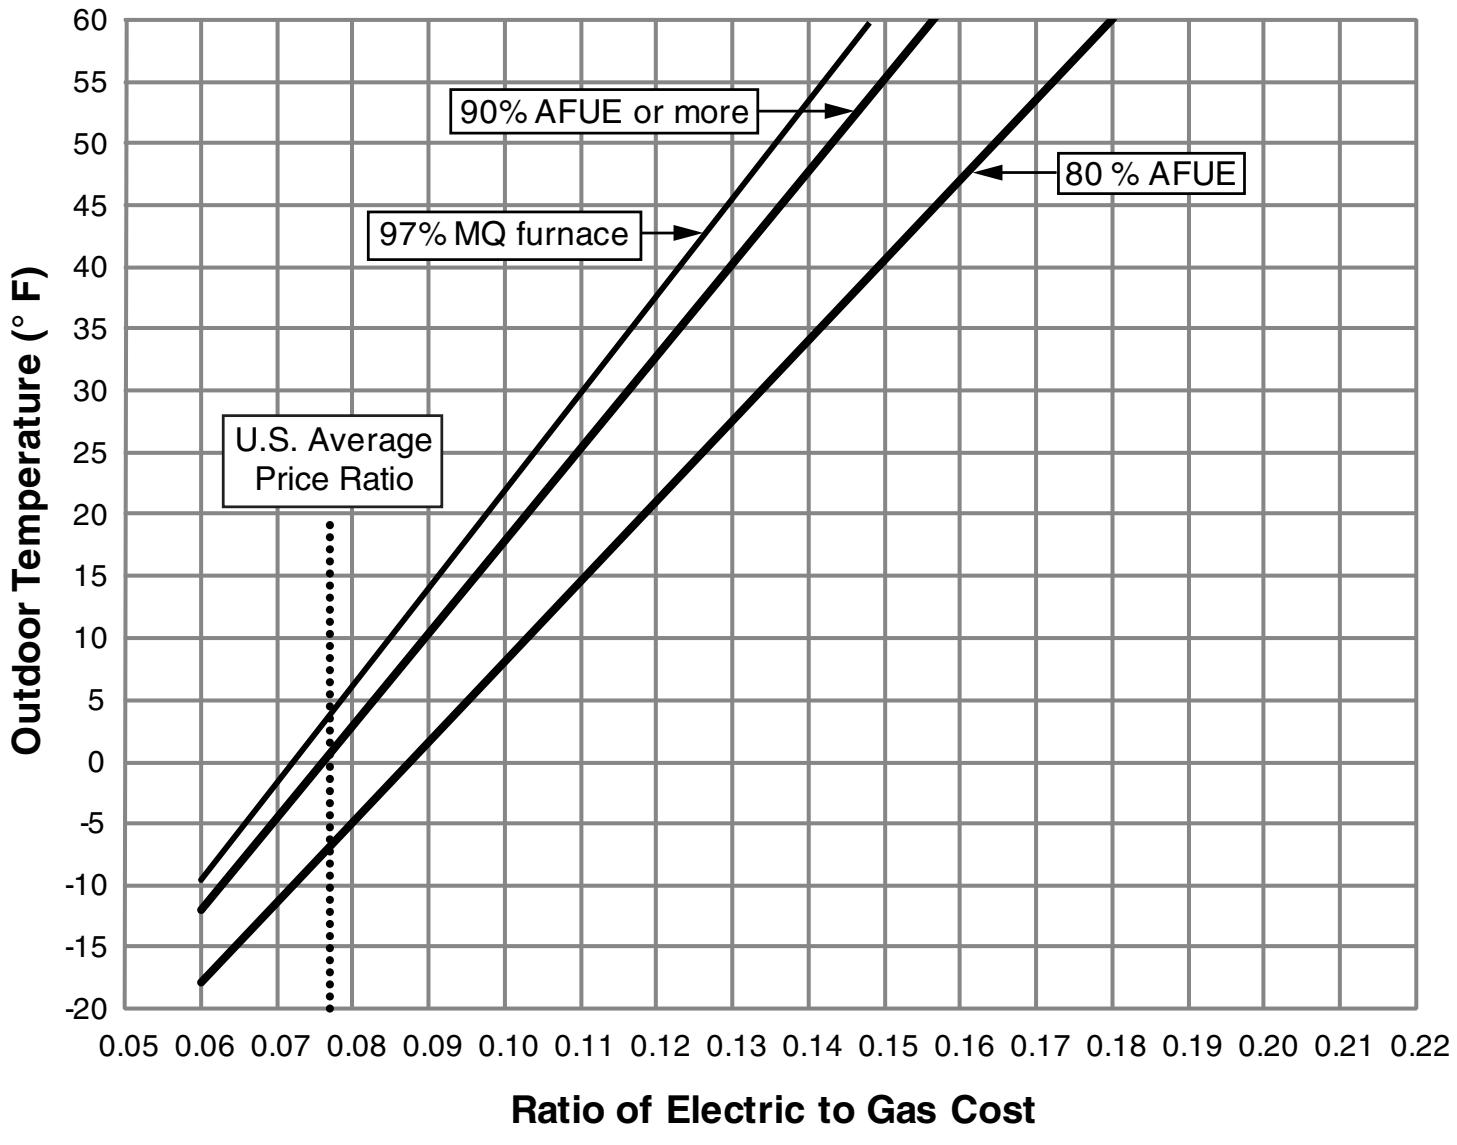
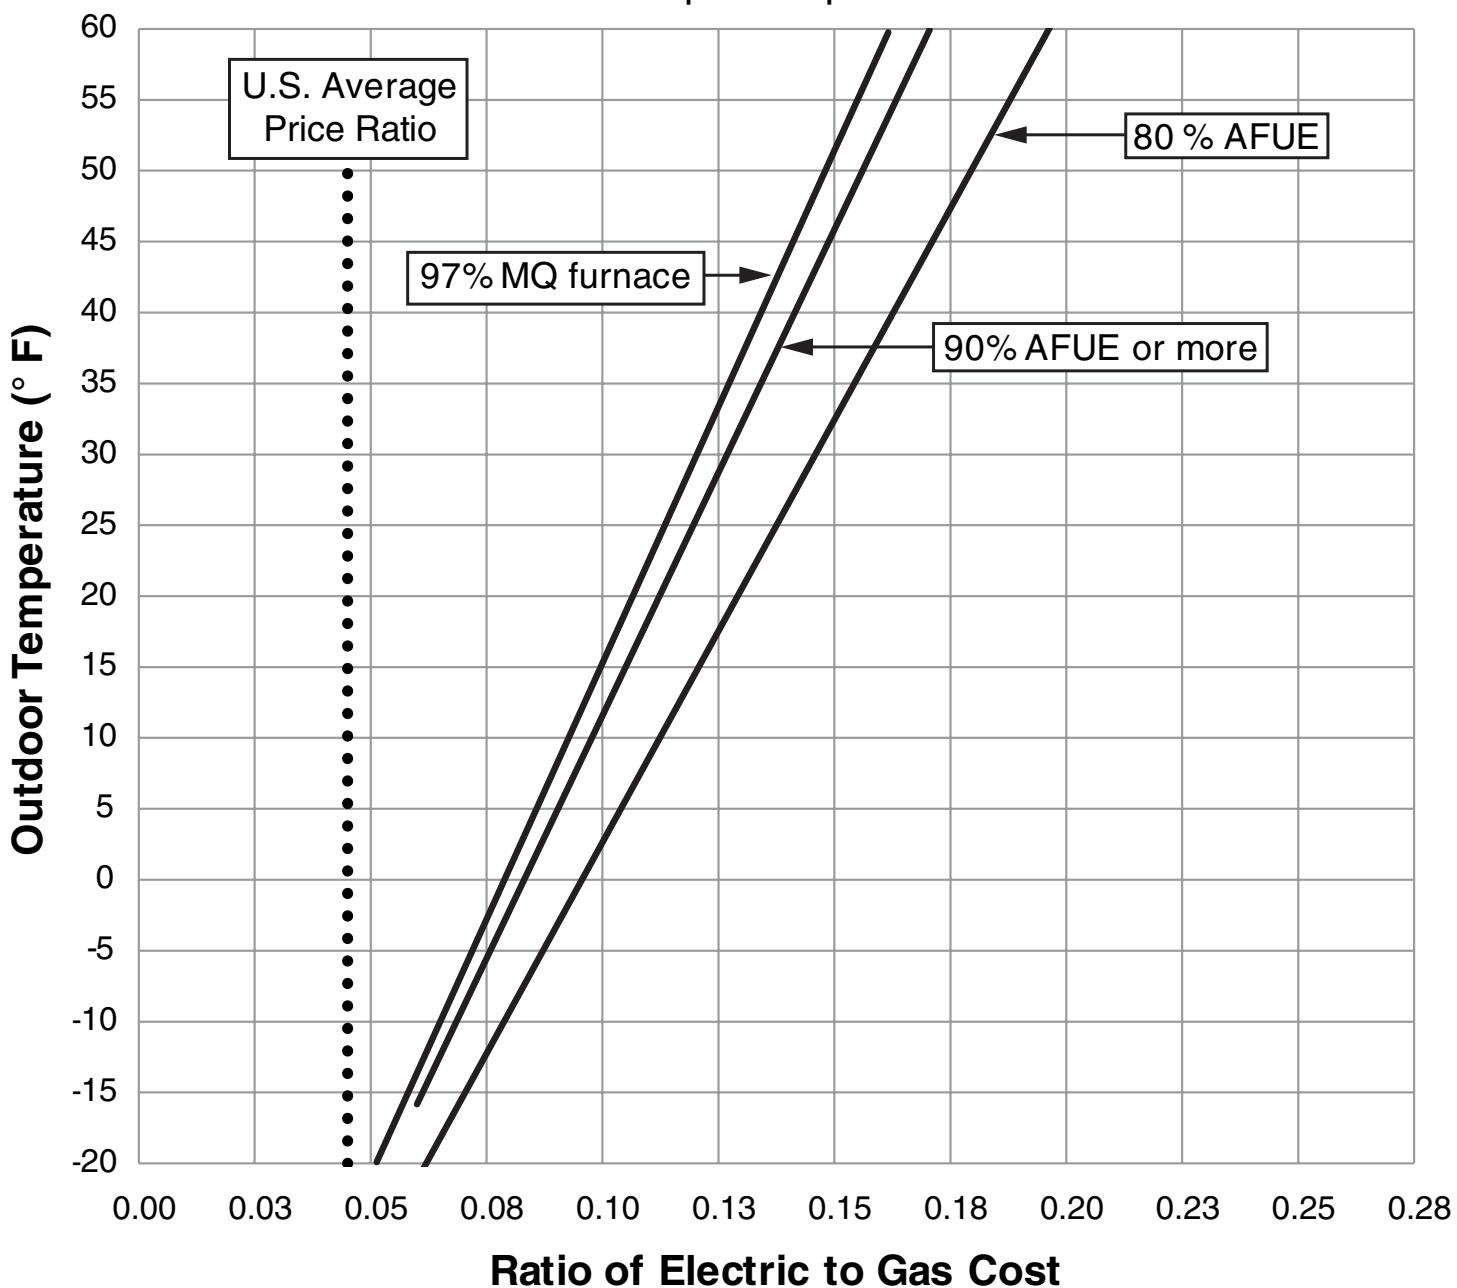

Figure 1
Figure 2
3. Refer to Figure 1 (for natural gas) or Figure 2 (for LP). Find the cost ratio from step 2 along the horizontal axis. Move vertically up the chart until you intersect the line that represents the AFUE of your furnace. Next, move horizontally to the left until you reach the temperature in the vertical axis. This is the economic balance point temperature.